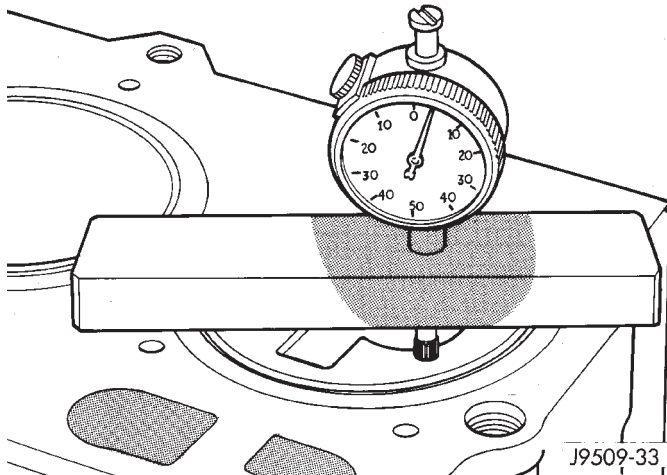

Fig. 66 Measuring Piston Protrusion
- (1) Use special tool VM.1010 with dial indicator special tool VM.1013 (Fig. 66).
- (2) Bring the piston of cylinder no. 1 exactly to top dead center.
- (3) Zero the dial indicator on the cylinder block mating surface.